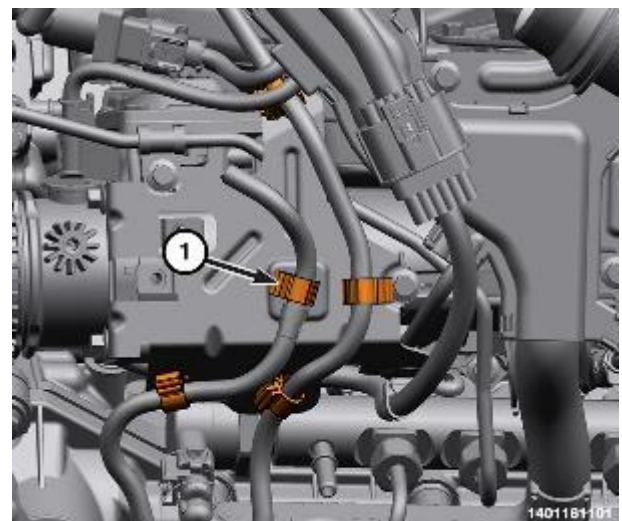

Figure 159 – Return Hose Retainers
- 24. Detach the retainers (1) securing the fuel return hose to the fuel line support bracket (Figure 159).